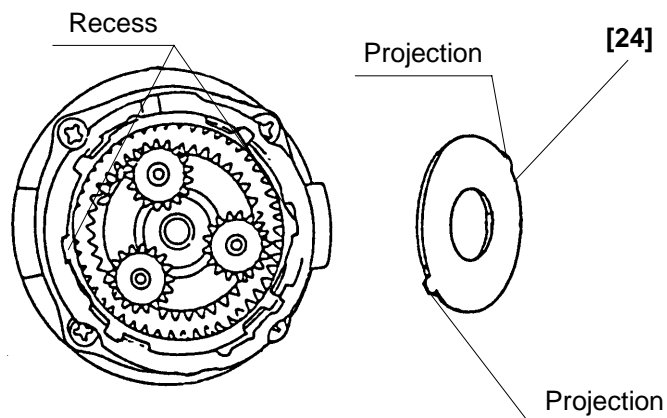

Fig. 13
Install Washer (B) [24] in the Rear Case [17] with the projection of Washer (B) [24] engaged with the recess in the Rear Case [17], and turn Washer (B) [24] clockwise until it can turn no further. (See Fig. 13)